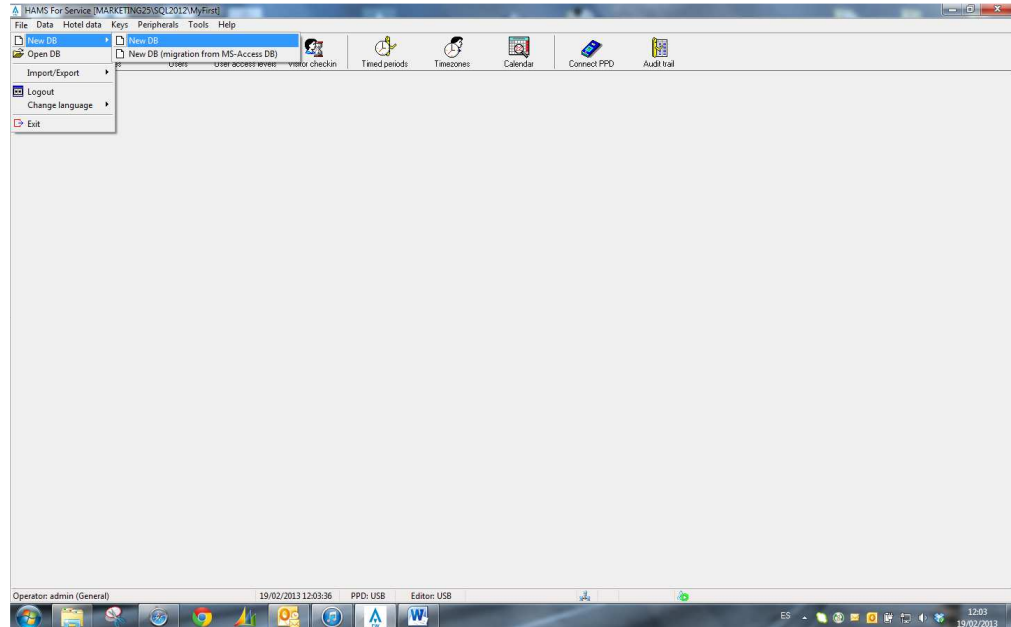

Figure 3
- Select *NEW DB option* (Figure 3)
- A window like that of Figure 3 will display.
(Fig. 3)